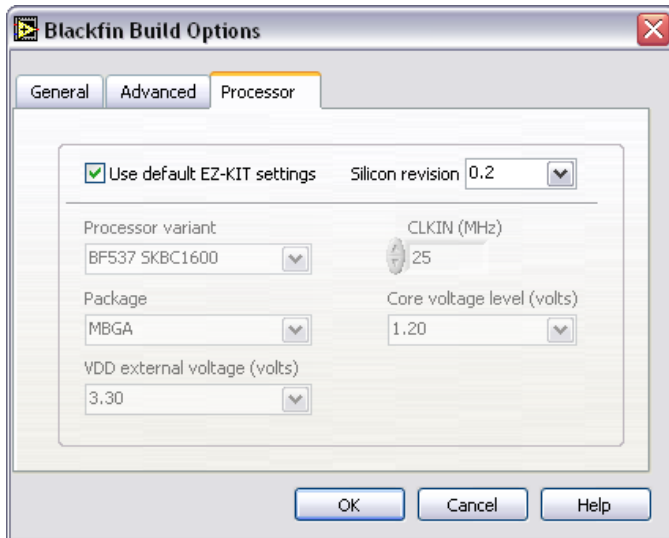

Figure 13. Verifying the Silicon Revision
4. Click the **Processor** tab and verify the silicon revision in the **Silicon revision** drop-down list, shown in Figure 13, matches the silicon revision on the hardware.